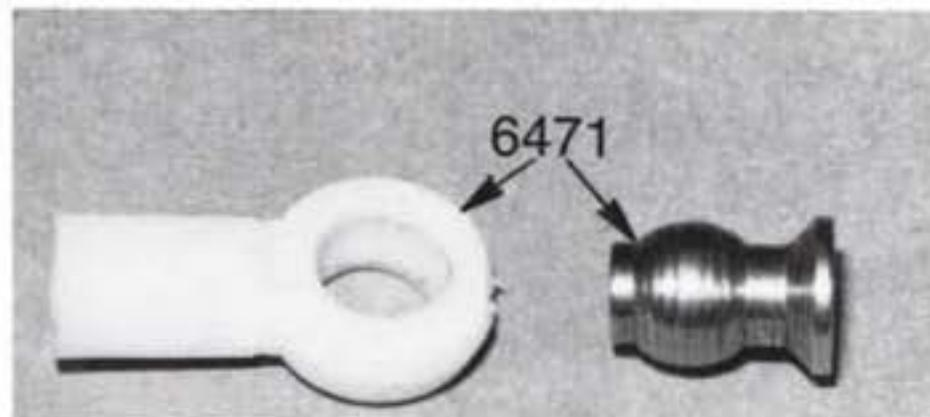

Fig. 127
(6) From bags #6-9 and #6-10 and remove the #6471 nylon shock rod ends and .230 shock steel pivot ball ends, two from each bag. See fig. 127. From the shock assembly parts bag (inside the main shock bag) remove the remaining two #5407 red O-rings. (7) Now take one of the #6471 plastic shock rod ends and push it onto the steel shock pivot ball. The easiest way to do this is to place the metal ball end on a table with the flat side against the table. Set the plastic rod end over the ball and push it into place with your 1/4" nut driver. You can also use pliers to squeeze the parts together.
(8) Slide one of the red O-rings onto each rear shaft then (9) thread the nylon shock rod end onto the shock shaft. To keep the shock shaft from turning, you will have to hold the shaft with your needle nose pliers. **WARNING! Using only the smooth part of your needlenose pliers, grab only the shaft, not the threads, and as close to the threads as possible. This is very important, for we do not want to scratch the shaft where it will ride in the O-rings, for this could damage them, causing the shock to leak.** Assemble the other three shocks.